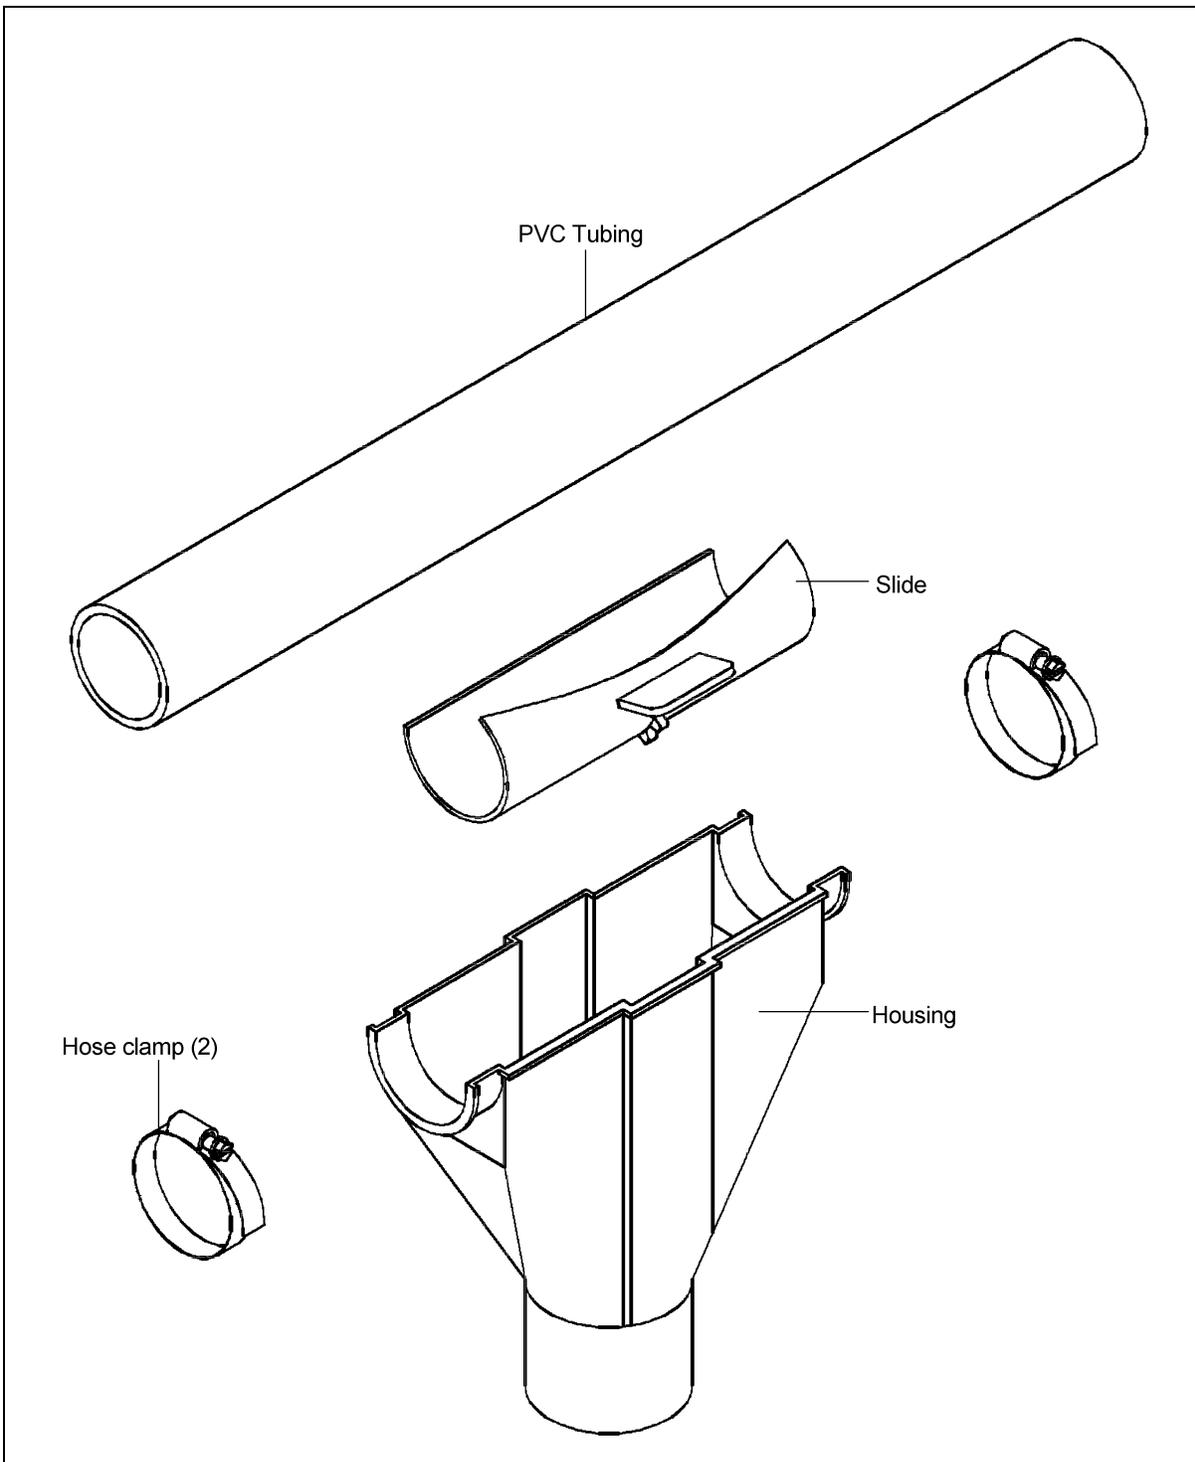

Figure 5V Kwik-Attach Drop Kit Installation
1. Snap the slide around the tube over the outlet hole. *(See Figure 5V.)*
2. Fasten the housing to the tube using two (2) hose clamps. Make sure the outlet hole is in the middle of the housing.